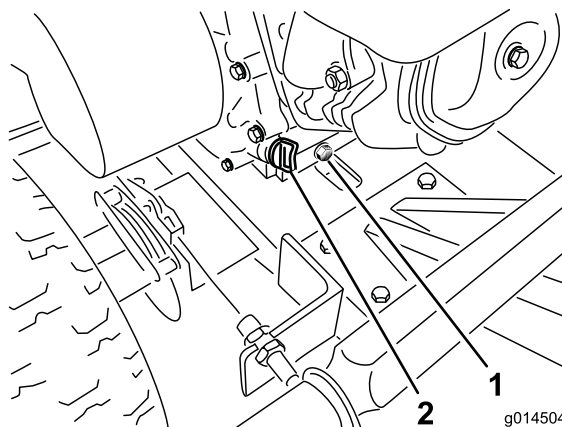

Figure 16
- Remove the drain plug and drain the oil through the hole slot in the frame (Figure 16).
7. Remove the oil fill cap and slowly pour approximately 80 percent of the specified amount of oil into the engine (Figure 16).